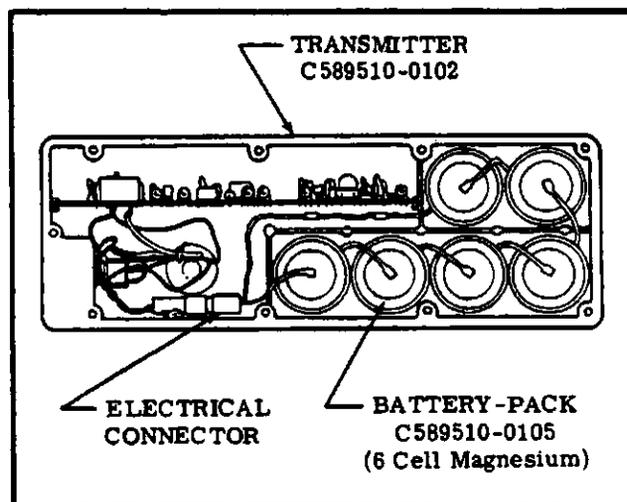

Figure 16-12. Magnesium 6 Cell Battery-Pack Installation
#### 16-81. REMOVAL AND INSTALLATION OF MAGNESIUM SIX (6) CELL BATTERY-PACK. (Refer to figure 16-12.)